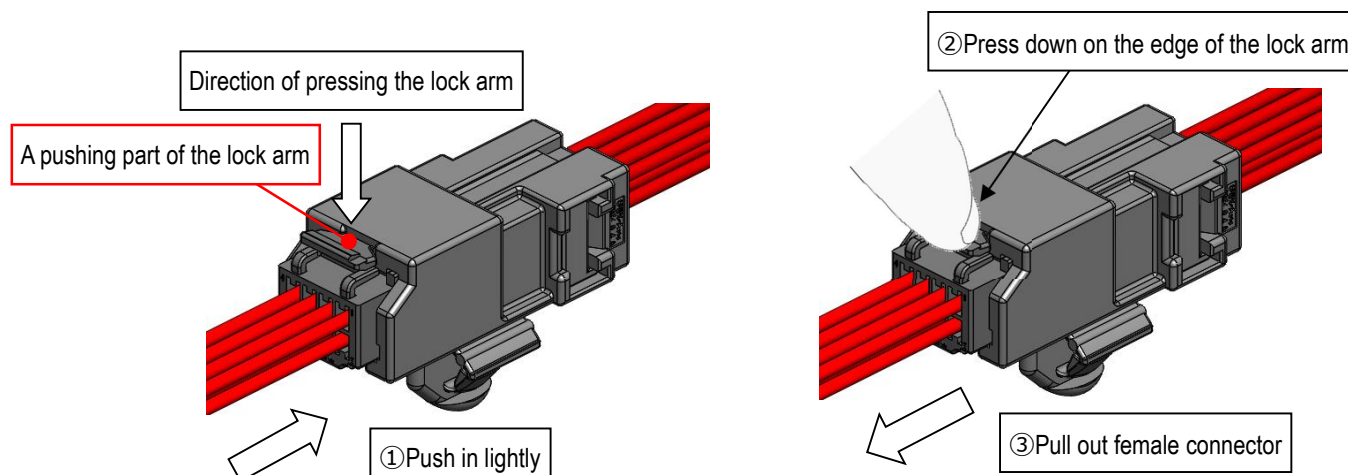

Fig. 45 Unmating of connector
- ① Hold the female connector and push it in lightly.
- ② While holding the female connector in, press down fully on the end of the lock arm (see Fig. 45).
- ③ Keep pressing the lock down, and pull out the female connector.